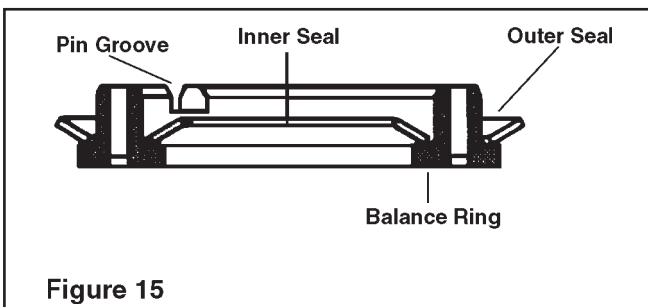

Figure 15
37. Apply petroleum jelly to inner and outer face seals. Install seals on balance ring as shown in Fig. 15.
IMPORTANT: Install face seals in the positions shown in Fig. 15 or the motor will not operate properly. Do not force or bend the face seals. Any damage to these seals will affect the operation of the motor.